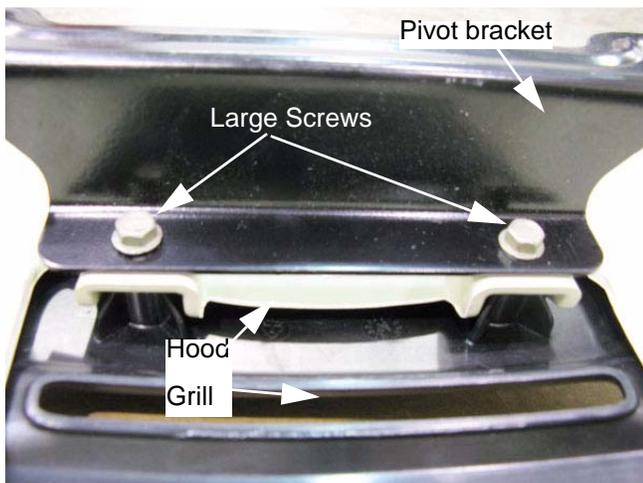

Figure 4.9
3. Remove the two screws that hold the pivot bracket and grill to the hood assembly using a 1/2" wrench. See Figure 4.9.